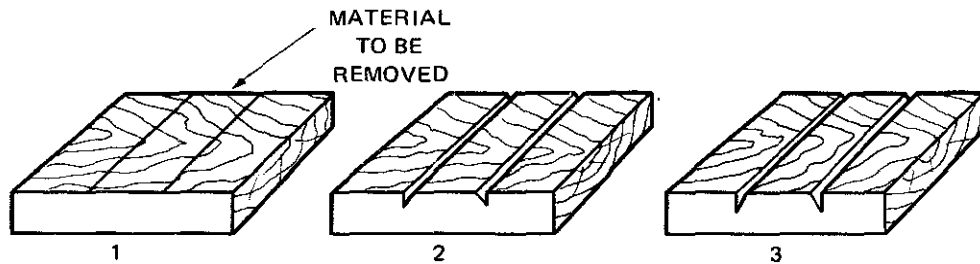

Fig. 9-48 Sequence for marking with a knife.
- c. If cutting is to be done to the mark, go over the mark several times to make it deeper. Then, tilt the blade slightly to the side and cut away the fibers so that the blade has clearance on the waste side as shown in figure 9-48.